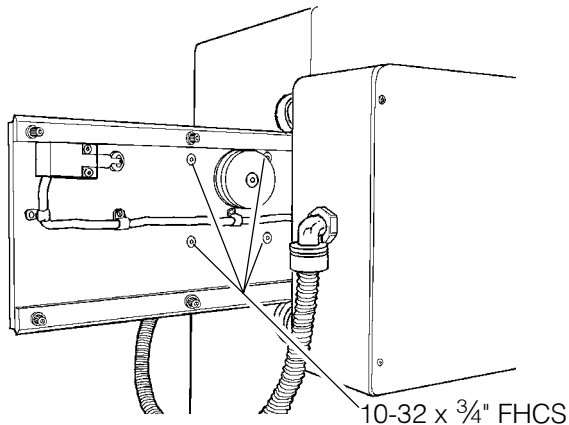

Fig. 14-6 Front view of holding plate showing FHCS location.
9. Remove the four FHCS attaching the shuttle motor to the holding plate on the tool changer (See Fig. 14-6). The FHCS are visible from the front of the VMC. Do not remove the HHB's holding the shuttle motor gear box together.